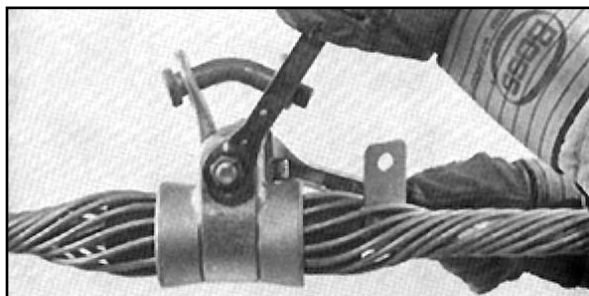

FIGURE 11
- 3.09 Apply the locking nut. Tighten until the lock washer is almost flat. (Figure 11)